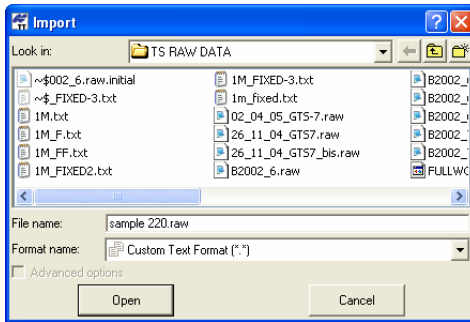

Figure 3-30. Import Custom TSWraw Format File
4. Set the desired *Advanced* options (Figure 3-30 on page 3-30): define the projection type, coordinate order, and type of vertical angle if known.